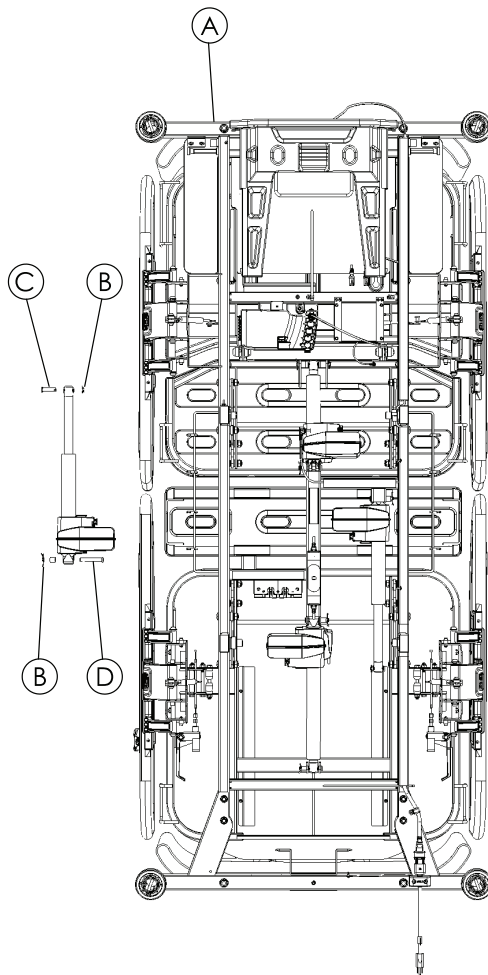

Figure 5: Foot end lift actuator
2. Support the foot end litter cross brace (A) to support the foot end litter (Figure 5 on page 42).
6. Using needle nose pliers, remove and discard the rue ring cotter pins (B) from each clevis pin (Figure 5 on page 42).
7. Using one hand, support the foot end lift actuator and remove and discard the foot end clevis pin (C) then allow the foot end lift actuator to pivot down (Figure 5 on page 42).
8. Using one hand, support the foot end lift actuator and remove and discard the head end clevis pin (D) and spacer (Figure 5 on page 42).